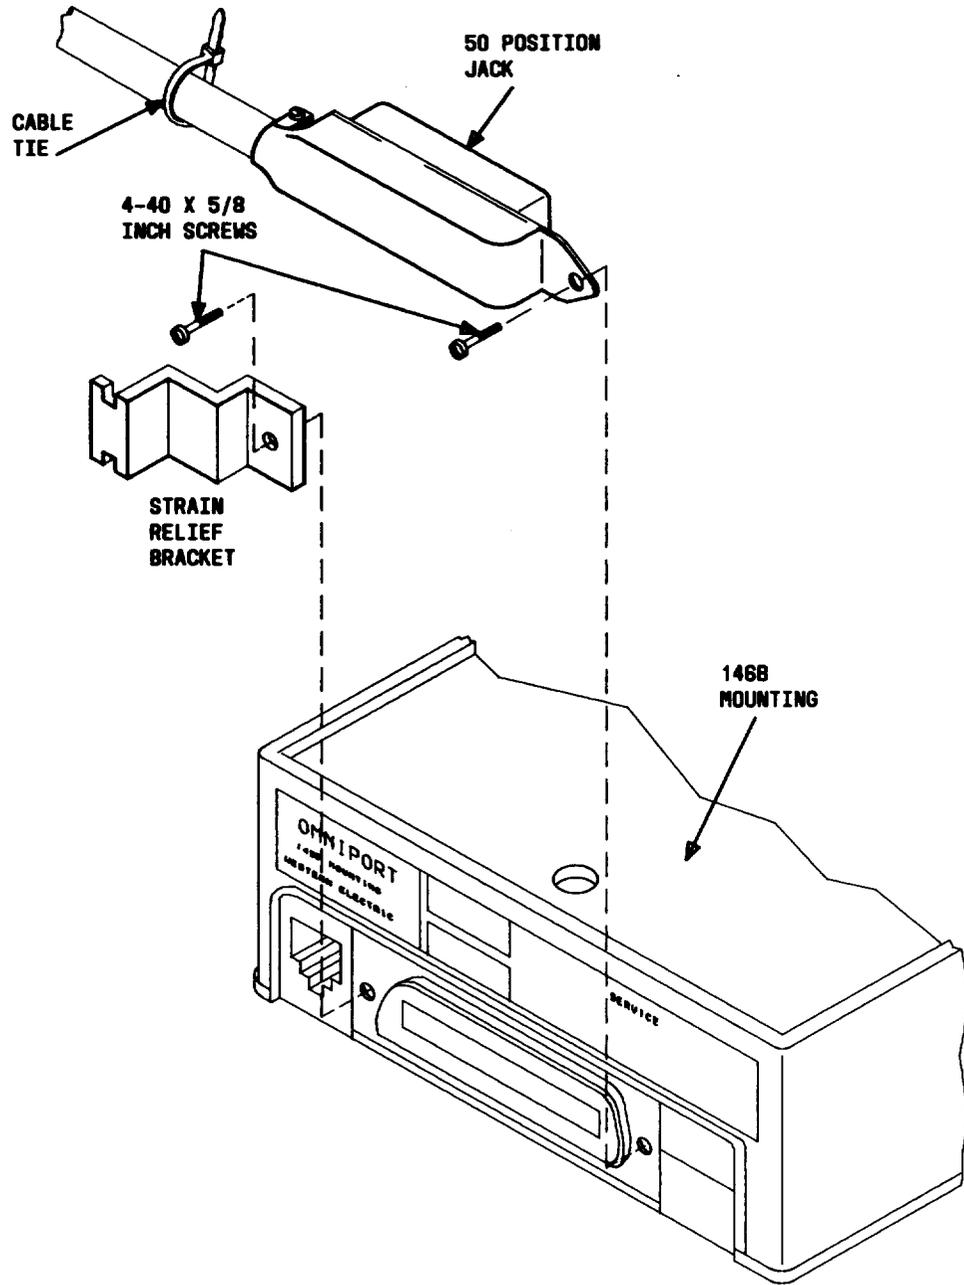

Fig. 4—Installation of Strain Relief Bracket
4.07 If the 50-position plug is used for customer connections, the strain relief bracket provided in the parts packet should be installed before connecting the 50-position jack to the plug. Figure 4 shows the installation of the strain relief bracket and